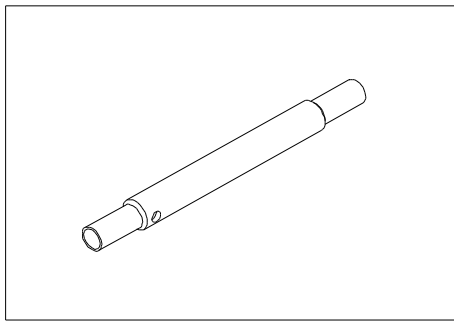

Figure 4-7
H. Install the standpipe into the hopper (Figure 4-7, 4-8).